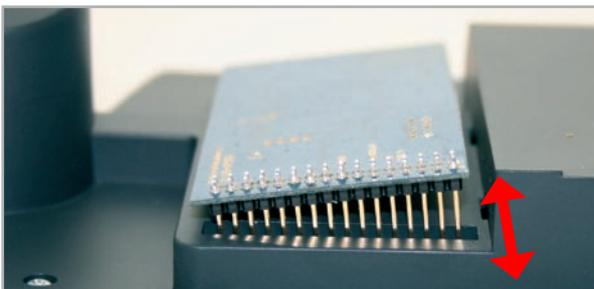

Figure 8
- c) Insert the receiver module into the plug-in position and tilt it slightly as shown in Fig. 8.